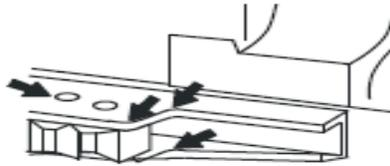

Figure 10. Retaining Pin Holes and Radii of Cocking Handle Channel.
4. Check for cracks in areas around the retaining pin holes and the radii of cocking handle channel, indicated with arrows in Figure 10. Code out receiver as needed and order new weapon.